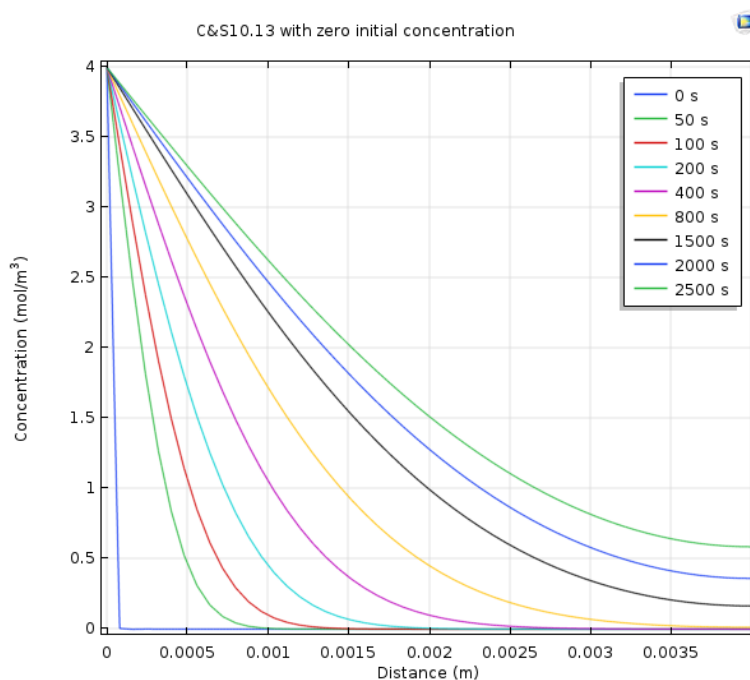

Figure 1: Problem C&S10.13 with initial concentrations of zero
16. Now make the same plot as Figure 1 using excel. (In excel add a scatter plot and bring in each set of data. Remember to use the End key and arrow to avoid scrolling for long times!)